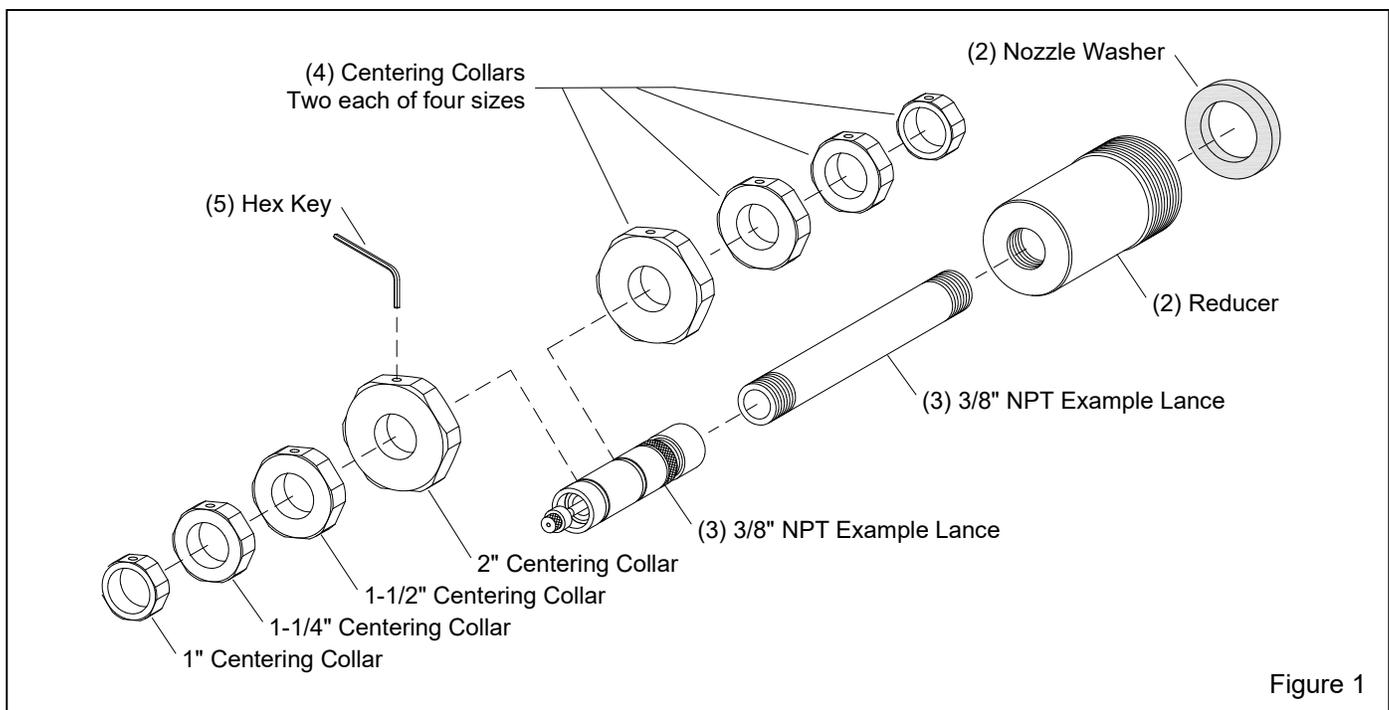

Figure 1
1.4 Components – Figure 1
1.4.1 Components of the Hollo-Blast Jr. are shown in Figure 1 and include: